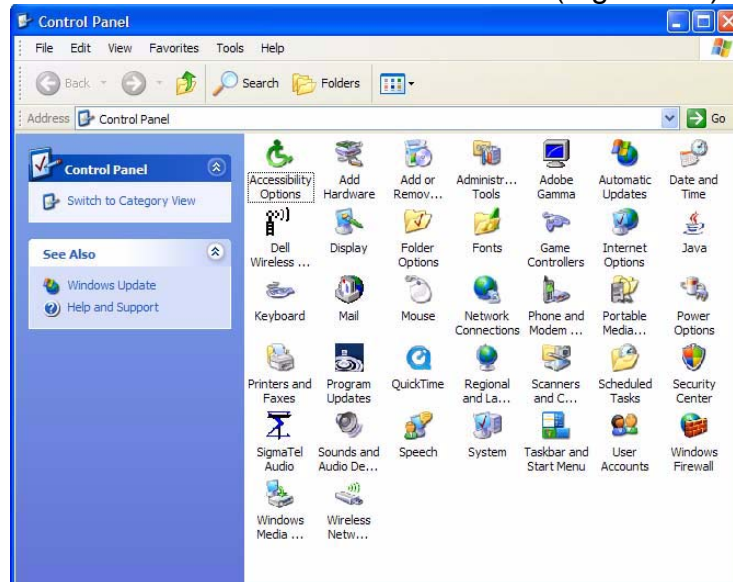

Figure 6-1 Control Panel
1. Click **Start**, point to **Settings**, and then click **Control Panel**. (Figure 6-1).